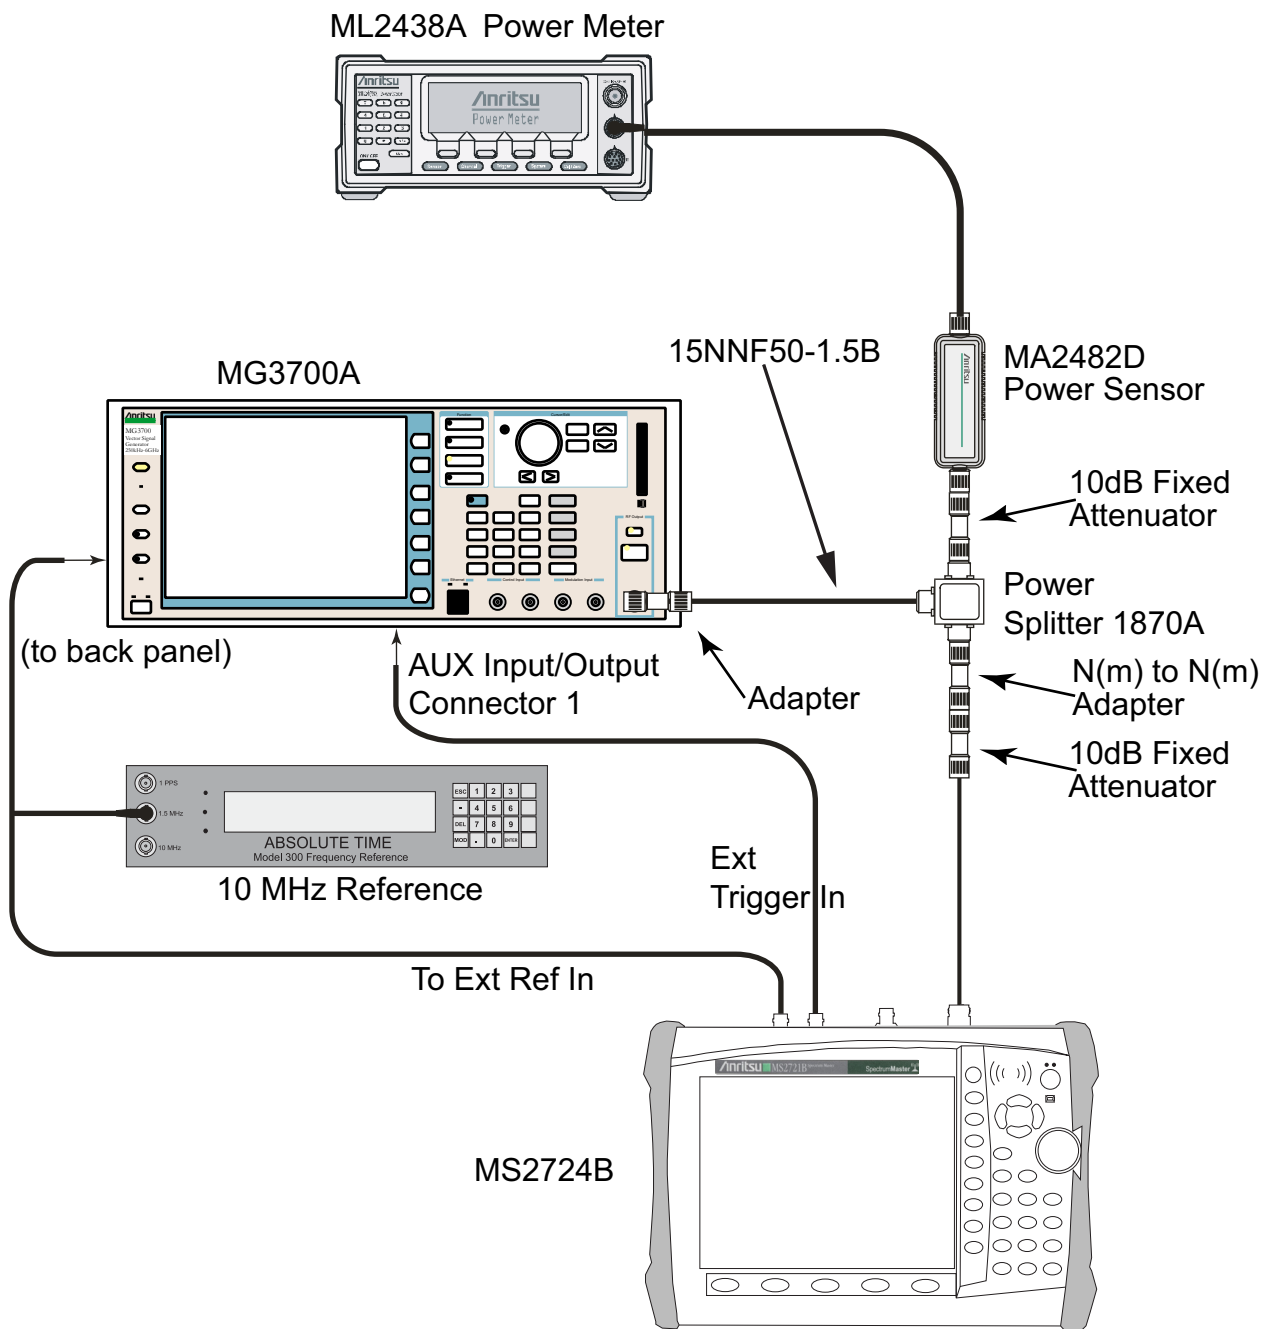

Figure 2-24. TD-SCDMA Signal Analyzer Option Verification – Test Setup
1. Connect the equipment as shown in Figure 2-24.